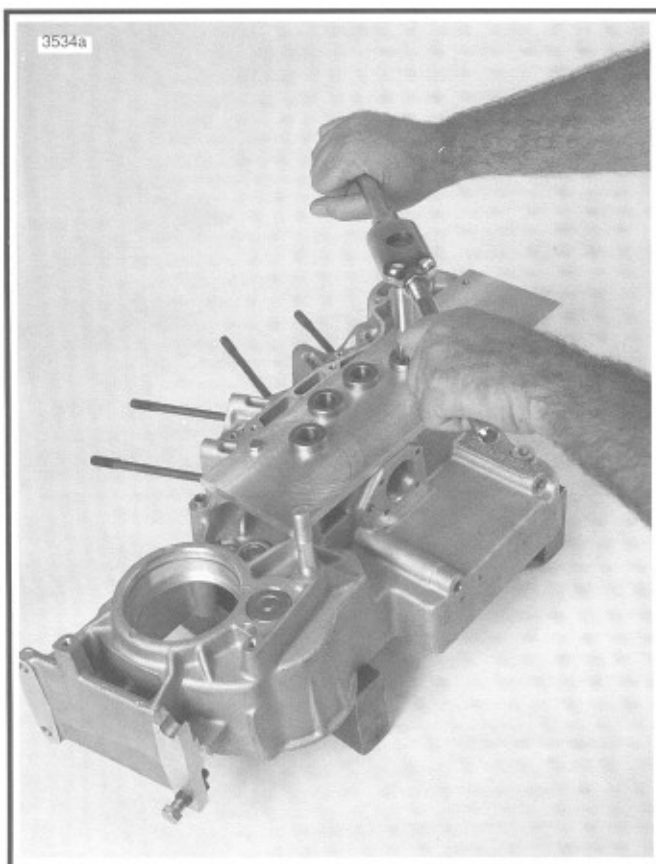

Figure 3-67. Reaming Cam Gear Bushing in Right Crankcase Half
2. See Figure 3-67. Position CAMSHAFT BUSHING REAMER PILOT (Part No. HD-38871) onto gearcase side of crankcase half; upper right and lower left indexing holes in pilot must be placed over dowels in crankcase half. Insert two bolts (supplied with pilot) through two remaining holes in pilot, and into threaded holes of crankcase half. Tighten bolts securely.